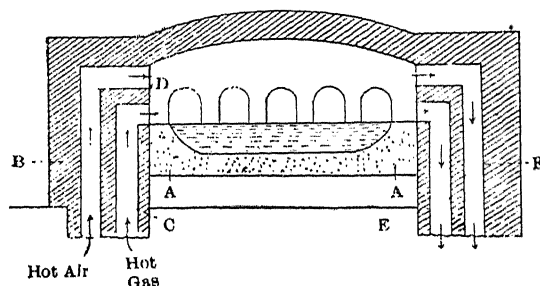

Fig. 65. Diagram of an Open-Hearth Furnace
*Details of the Open-Hearth Process.* Fig. 65 shows the simpler parts of the type of furnace used in this process. The hearth of the furnace is about 40 ft. in length, 12 ft. in width, and 2 ft. in depth, and is lined with limestone or dolomite (A, A). Either gas or sprayed oil is used as a fuel. Below the furnace is placed a checkerwork of brick so arranged that the hot products of combustion escaping from the furnace may be conducted through it, thus heating the bricks to a high temperature. Both the air necessary for combustion and the gaseous fuel (unless decomposed by heating, as in the case of natural gas and sprayed oil) are preheated by passing them over the hot bricks, so that the temperature reached during combustion is greatly increased.